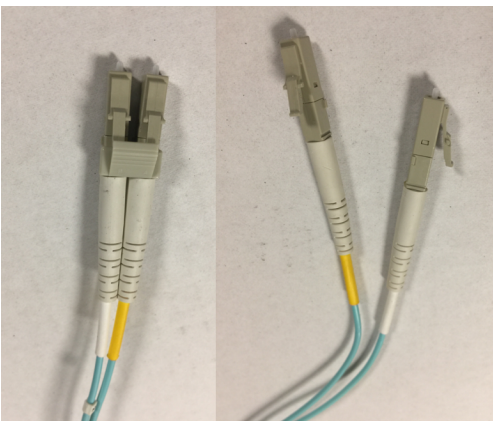
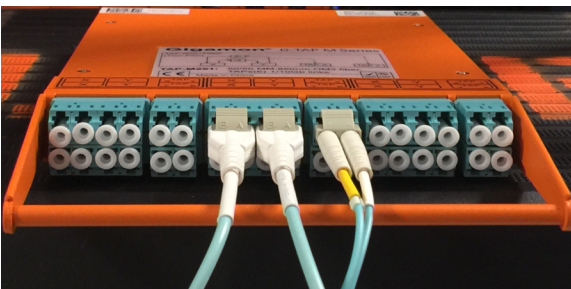
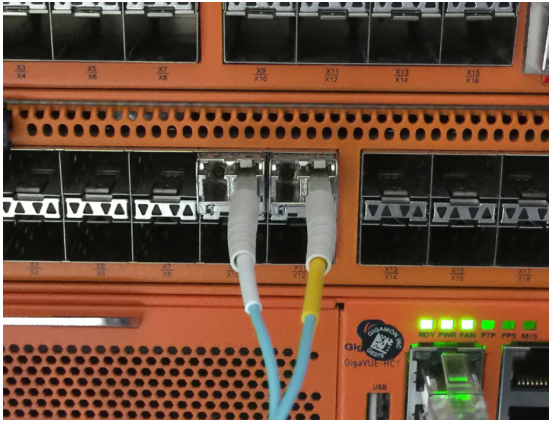

Figure 10: LC Connectors
Figure 11: LC Connectors connected to TAP
Figure 12: LC Connectors connected to GigaVUE Node
- a. When you connect the other ends of the single fiber cable to the GigaVUE node, make sure you only connect to the receiving half (Rx) of the network port. As specified earlier, transceivers have arrows indicating traffic direction. Only connect to the side of the transceiver with the arrow pointing in, to receive the traffic. Leave the transmitting half (Tx) of the port unconnected. Refer to Figure 10: LC Connectors, Figure 11: LC Connectors connected to TAP, and Figure 12: LC Connectors connected to GigaVUE Node.